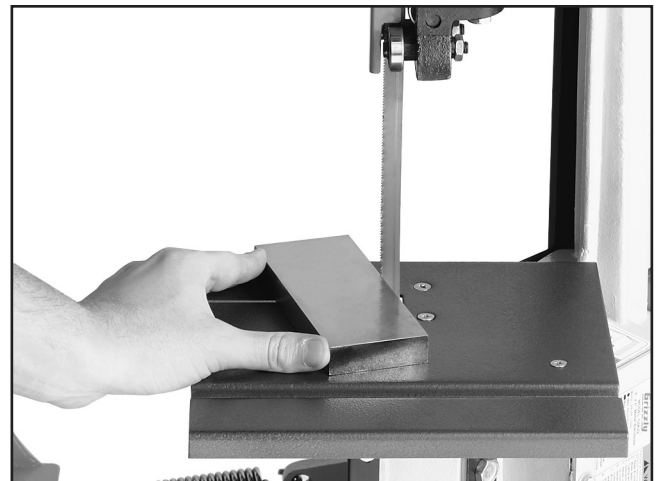

Figure 32. Using the vertical set-up.
- Always keep your fingers away from the blade and always hold the workpiece securely in your hand (**Figure 32**).